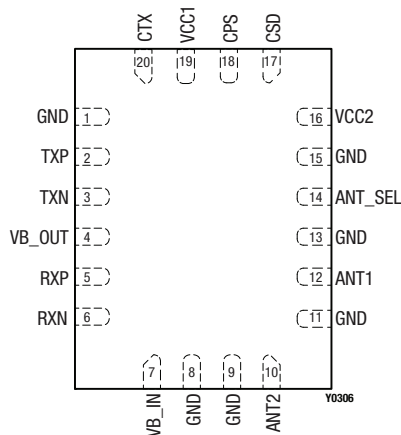
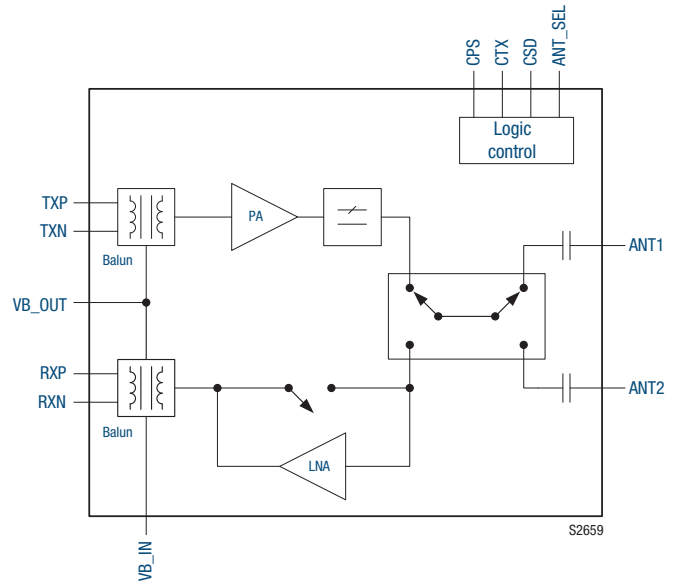

Figure 2. SKY66109-11 Pinout (Top View)
Figure 1. SKY66109-11 Functional Block Diagram
- Low noise figure: 2 dB typical
The SKY66109-11 is provided in a small, 20-pin, 3 x 4 mm Multi-Chip Module (MCM) package. A functional block diagram is shown in Figure 1. The pin configuration and package are shown in Figure 2. Signal pin assignments and functional pin descriptions are provided in Table 1.